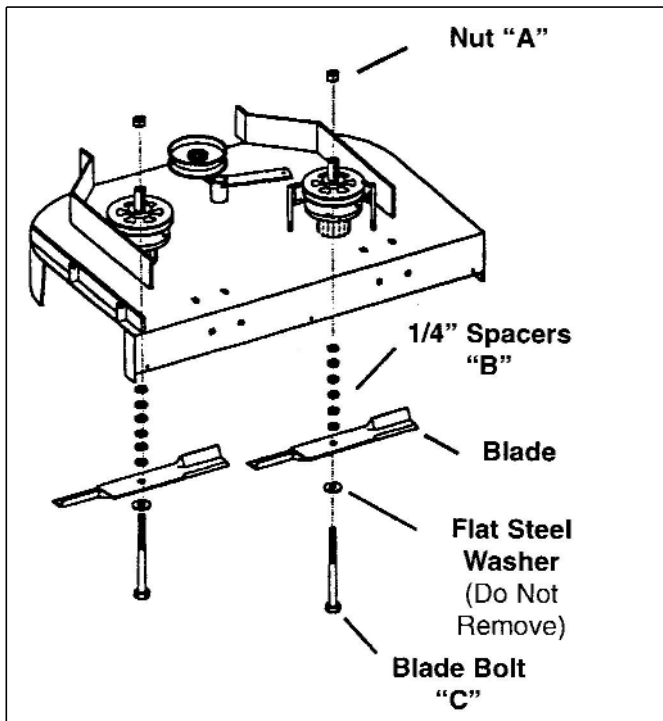
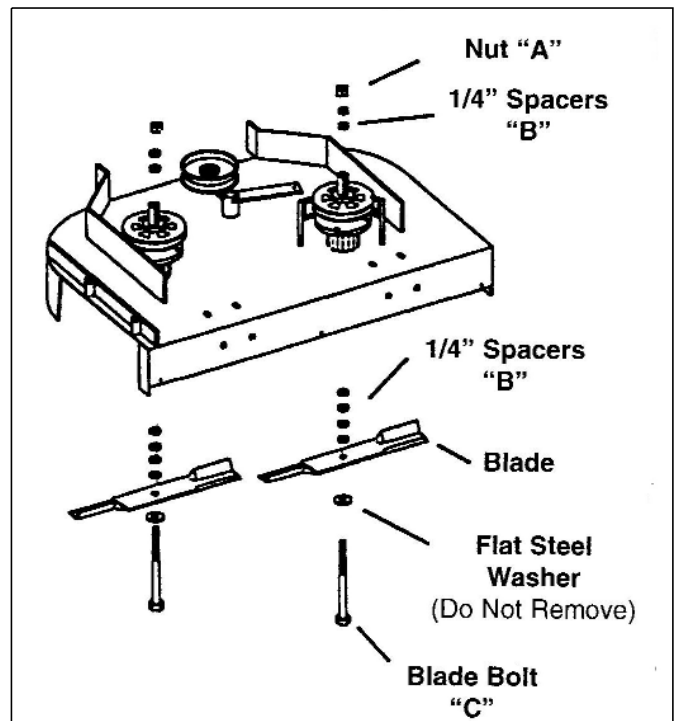

Figure 10
Figure 11
3. Using two (2) 15/16" box end wrenches, use one wrench to loosen nut "A" while holding blade bolt "C" with the other wrench (Figure 10).
5. To raise the blades to the height desired, remove the appropriate amount of spacers from the blade bolt. Example: If the height of cut needs to be raised 1/2", move two (2) of the 1/4" spacers "B" on each blade from underneath the mower (Figure 10) to the top of the mower (Figure 11).